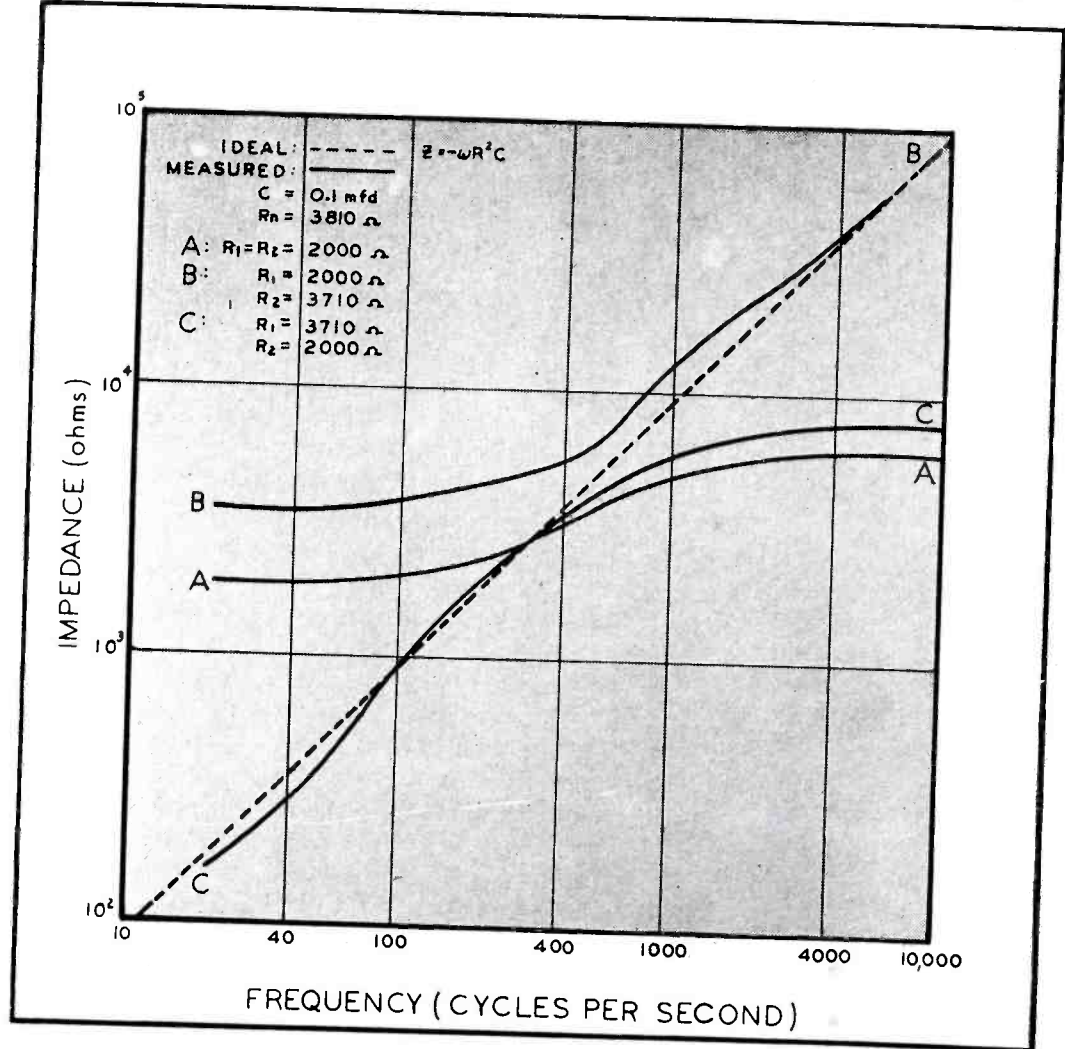

Figure 12
Curve A, Figure 12, illustrates the effects of very large differences in R_1 (and R_2) from R_n in a circuit having a capacity of 0.1 mfd. The agreement with the ideal is very poor at both the high and low frequencies. Curves B and C show the effect of each of R_1 and R_2 respectively, on the impedance as a function of the frequency. The disagreement with the ideal is explained by the fact that the term $(R_1 - R_n/wc)$ of equation (1) is again not negligible at the low frequencies when R_1 differs considerably from R_n . Likewise, when R_2 differs considerably from R_n , the term $(R_2 - R_n)$ is not negligible compared to $1/wc$ at the high frequencies.